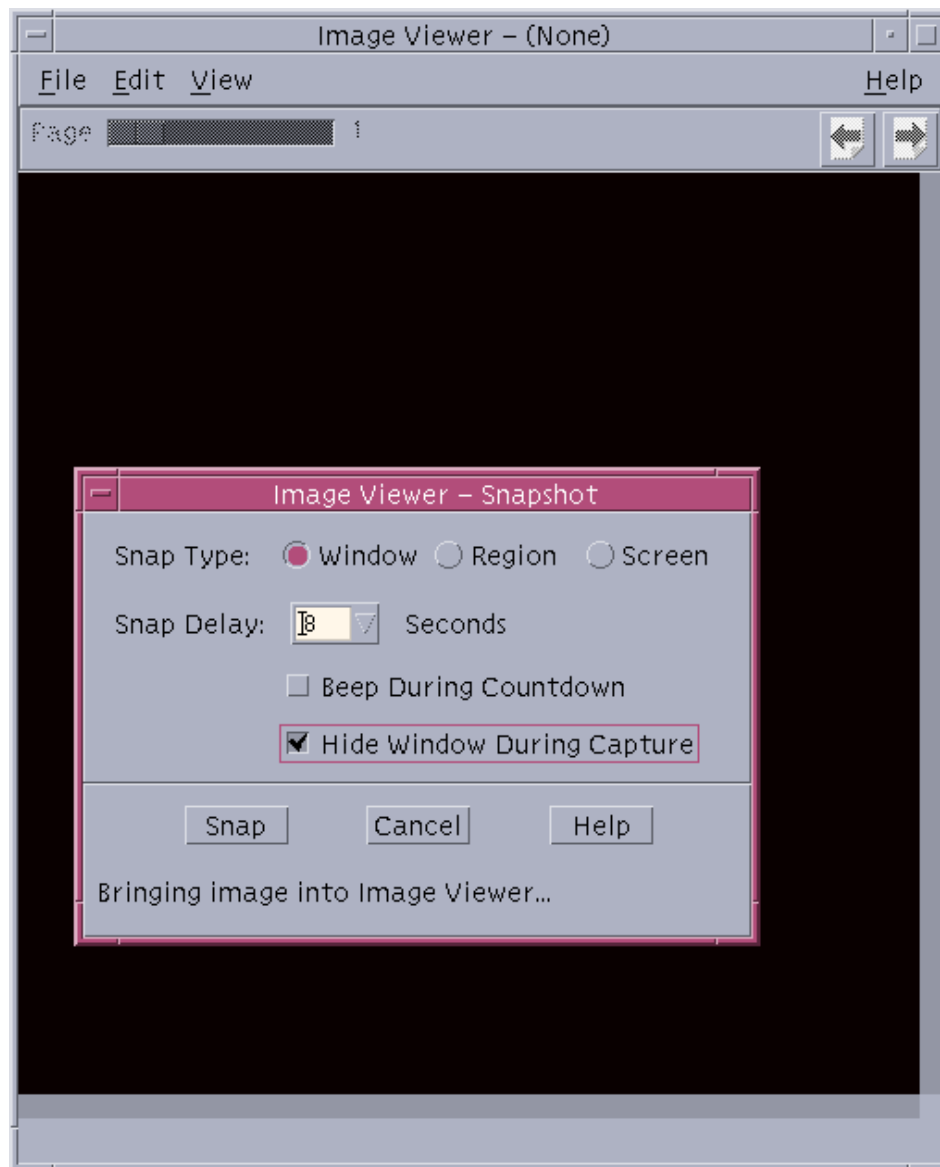

Figure 1 Image Viewer - Snapshot and blank Image Viewer before snapping any image.
4. Click on **Snapshot**. The two drop down menus will close and two new windows will open. The window titles are Image Viewer - Snapshot and Image Viewer - (None)(as shown in Figure 1). Once the selected window image is saved, None will be replaced by the filename.